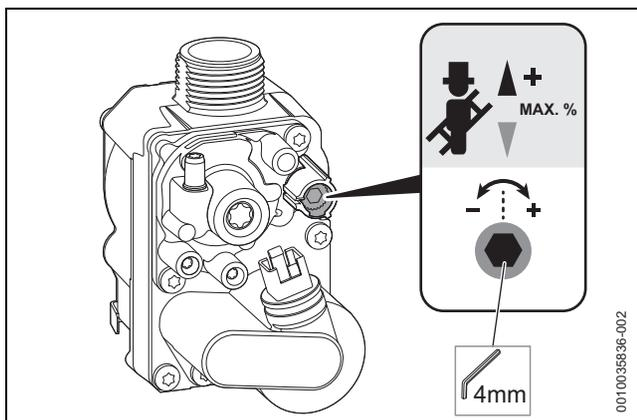

Fig. 80 Setting the CO₂ content
- ▶ Insert the hex tool into the adjusting screw of the gas valve (as shown in the below Figure 80) and set the CO₂ content for maximum rated output.